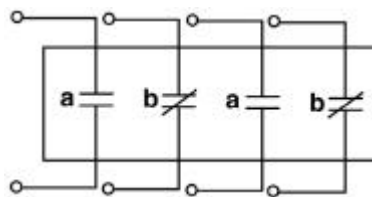

FIGURE 27: GRAPHICAL REPRESENTATION OF A 4 CONTACT AUXILIARY SWITCH (2A AND 2B)
- **Auxiliary Switch** - An auxiliary switch consists of “**normally open**” (NO) and “**normally closed**” (NC) contacts (Figure 27). The contacts on some switches are convertible from NO to NC and vice versa. The contacts are frequently referred to as “a” or “b” contacts. The “**a**” **being open when the circuit breaker is open and the “b” closed when the circuit breaker is open**. In short, these auxiliary contacts change “state” when the circuit breaker main contacts change “state.” An auxiliary switch is normally mounted on the circuit breaker. Contacts from these switches are frequently used for electrical operation of a circuit breaker, remote signaling, and electrical interlocking.